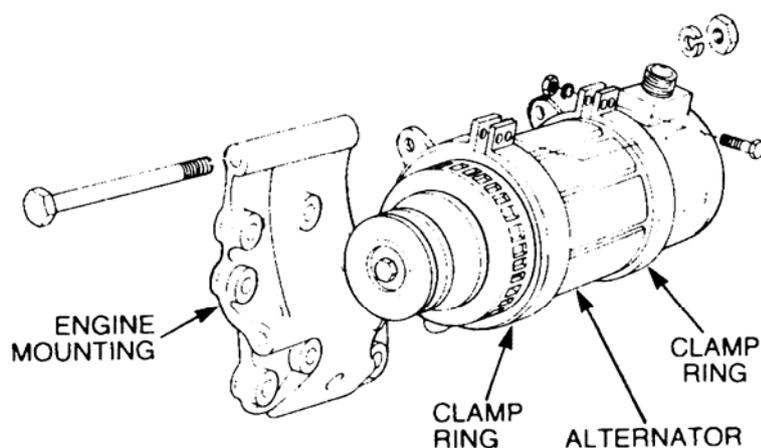

Figure 5 Alternator Installation
- Fit the clamp rings onto the alternator and install the bolts, nuts and washers (refer Figure 5).